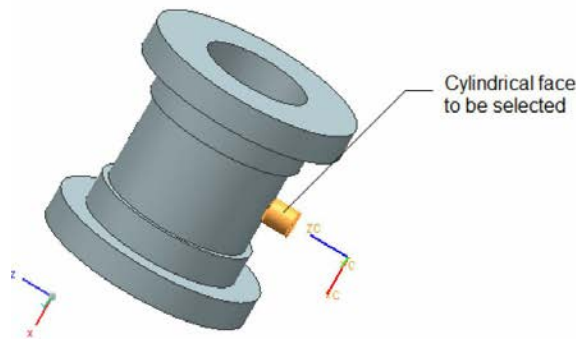
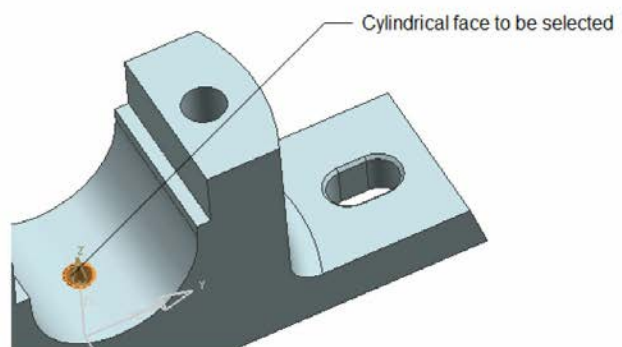

Figure 8-85 Cylindrical face to be selected from the Brasses
Figure 8-86 Cylindrical face to be selected from the Casting
8. Select the cylindrical face of the Brasses, refer to Figure 8-85, and then select the cylindrical face of the Casting, refer to Figure 8-86.